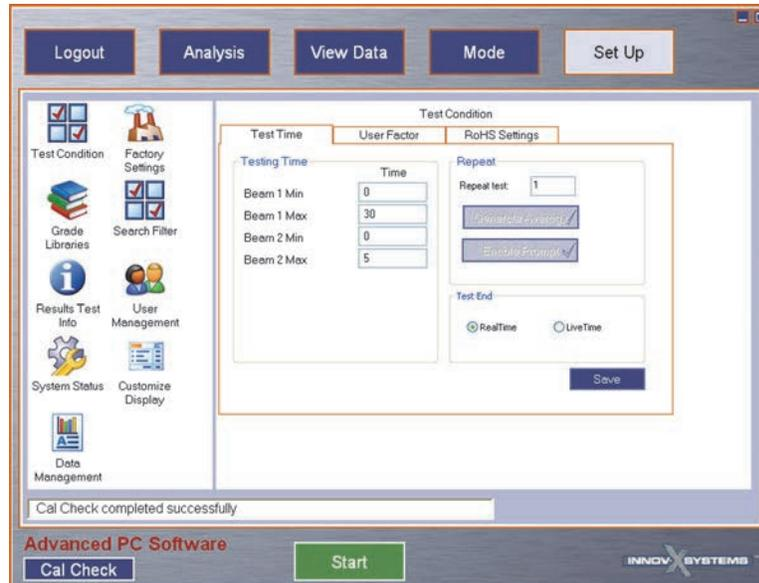

Figure 1-4 The DELTA PC Software user interface
The DELTA PC Software user interface (UI) displays five buttons across the top (**Logout**, **Analysis**, **View Data**, **Mode**, and **Set Up**), and two buttons on the bottom (**Cal Check** and **Start**). These buttons control access for managing the entire Olympus DELTA XRF application (see Figure 1-4 on page 8, and Table 1 on page 8).